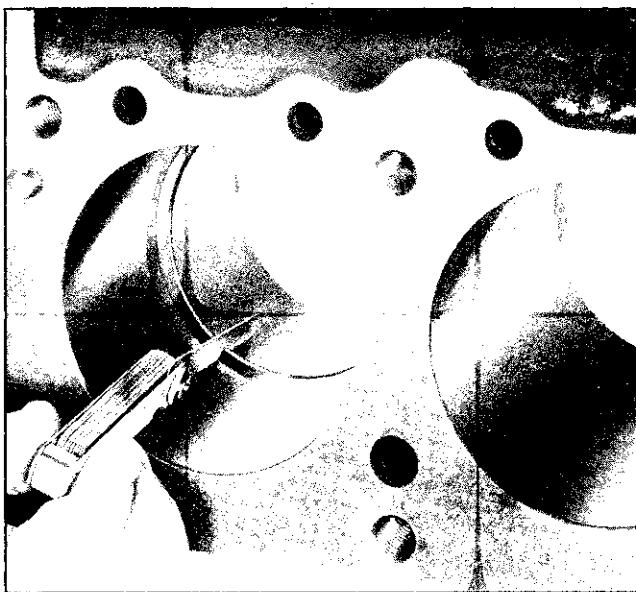

Fig. 6-123 Checking Ring Gap
3. Measure gap between ends of ring with feeler gauge (Fig. 6-123). Gaps should be as follows: